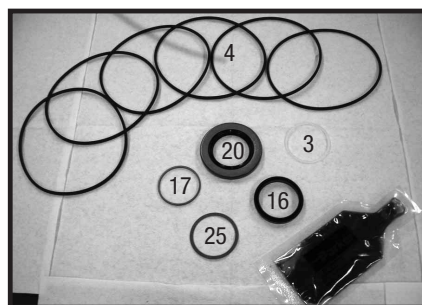

Figure 28
- **NOTE: Individual seals and seal rings as well as a complete seal kit are available. SEE FIGURE 28. The parts should be available through most OEM parts distributors or Parker approved Torqmotor™ distributors. (Contact your local dealer for availability).**